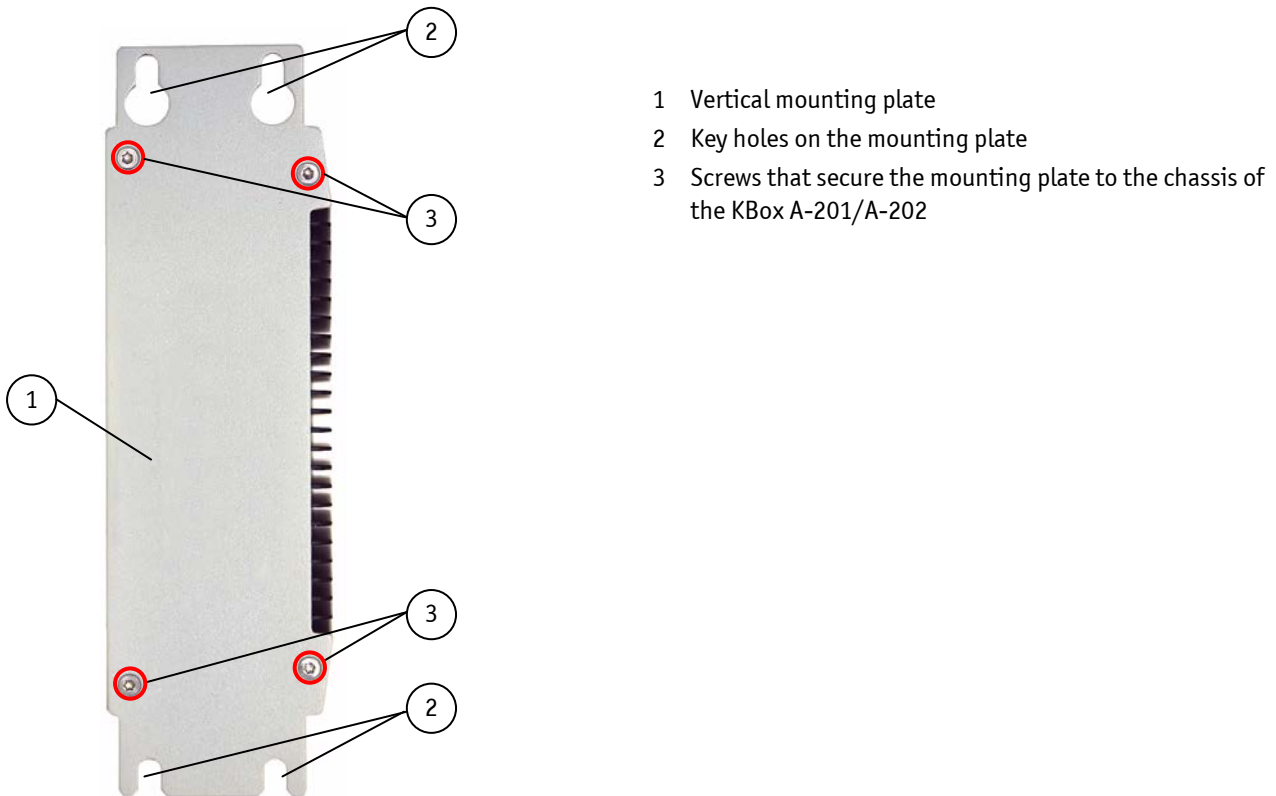

Fig. 15: Rear side of the KBox A-201/A-202 system with vertical mounting plate
The key holes of the vertical mounting plate (Fig. 15, pos. 2) allow you to mount the KBox A-201/A-202 in vertical position.